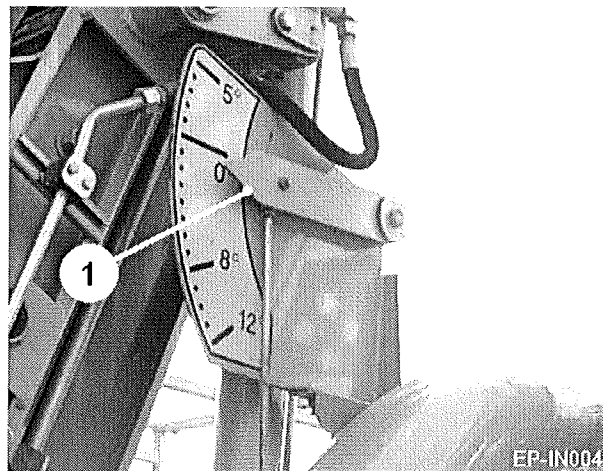

Fig 17
The steeper the angle of the unit, the quicker the crop flows over it and the less time it has to be cleaned. An optional auto angle unit can be fitted to maintain a pre-set angle on the cleaner when working on undulating ground. The auto angle unit is activated by pressing the button . The angle of the unit is shown by the indicator (item 1, figure 17).